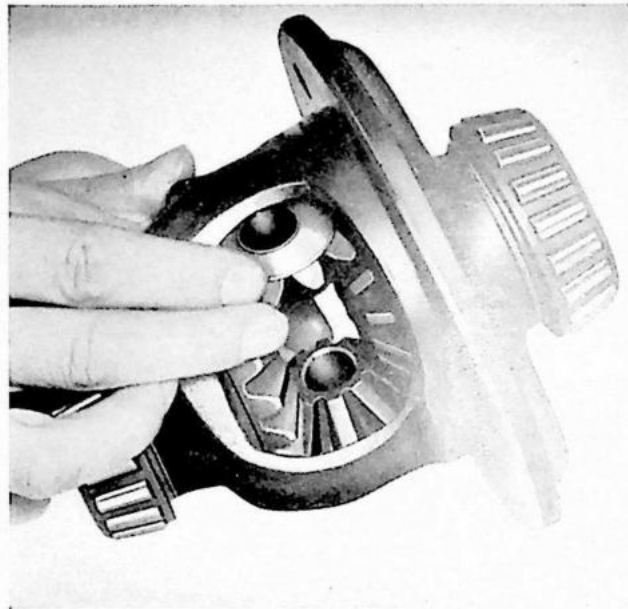

Fig. 14. Fitting differential gears.
1. If the differential has been disassembled the differential side gears (38) with thrust washers (39) are first placed in the differential carrier (43). Then "roll" in the small differential gears (41) (both together) with the dished thrust washers (42), see fig. 14.
2. Place in the thrust block (32) and drive in the shaft (31).
3. Set up the differential carrier in a vise and insert a drive shaft into one of the differential side gears. The differential should now go so stiffly that it can only with difficulty be turned by hand on this shaft. If it turns too easily, fit new thrust washers (39). The flat washers are available in oversizes. Note that washers of the same